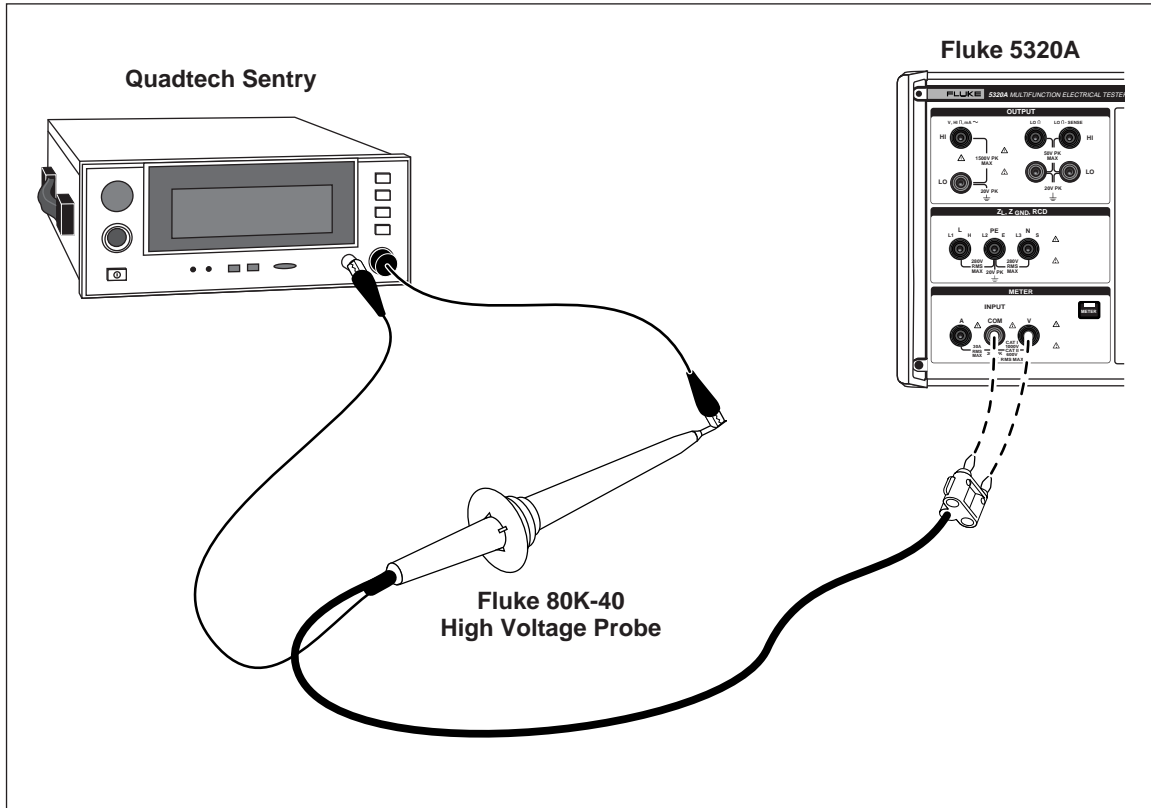

Figure 7-24. 40 kV High Voltage Probe Application
1. Using Figure 7-24, connect the UUT through the High Voltage probe and the Calibrator. Make sure to connect the ground side of the dual banana lead from the 80k-40 probe to the COM terminal of the 5320A meter.